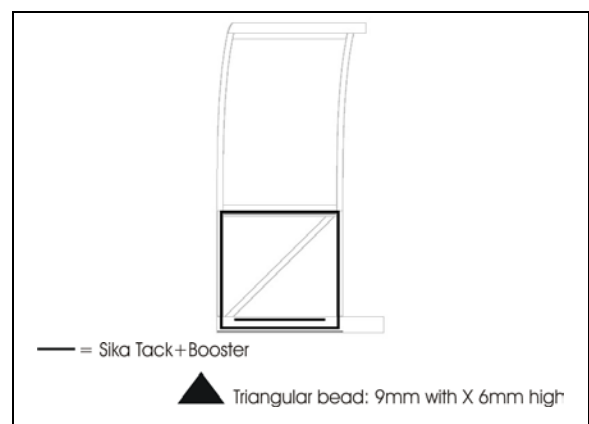
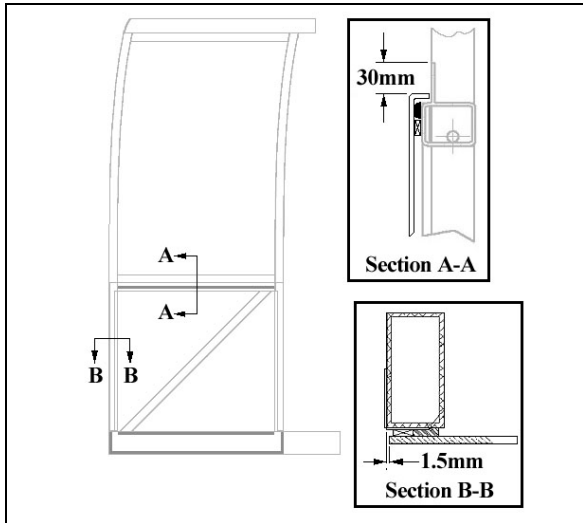

FIGURE 43: SIDE PANEL INSTALLATION – SIKA TACK+BOOSTER APPLICATION
FIGURE 44: SIDE PANEL INSTALLATION
4. Apply Sika Tack+Booster (triangular bead: 9mm width X 6mm high) as shown in FIGURE 43 and glue panel in place as shown in FIGURE 44